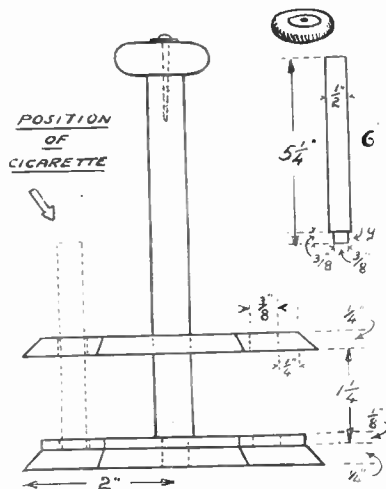

Fig. 3—Section and detail of spindle
Now take a  $\frac{1}{2}$  in. square opening out of the centre of (B) and another of  $\frac{3}{8}$  in. sides from the middle of the base. These are for the handle (G) (Fig. 3). It would be nice if this latter could be turned on a lathe at the top to some pleasing shape, but in lieu of this finish, a square-section length of wood with a 'button' on top